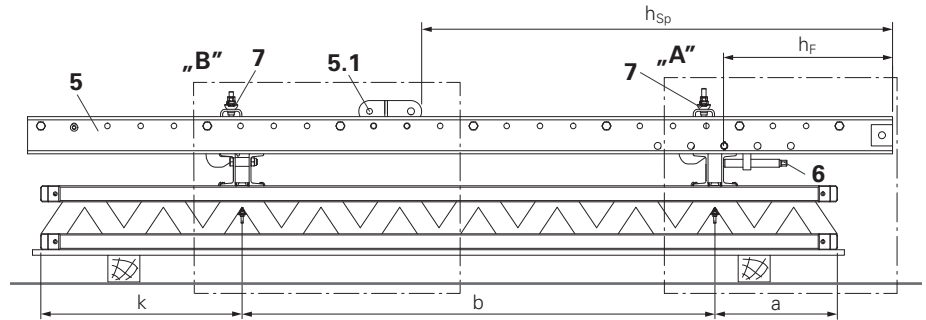
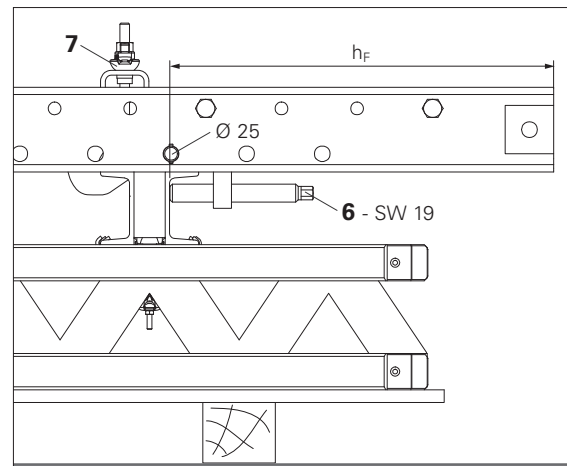

Fig. A3.01
Fig. A3.01a
- Place Strongback (5) on the steel waler of the formwork and align roughly at height h_F . (Fig. A3.01)
- Install Height Adjusting Unit (6) using Bolts Ø 25. Ensure that there is sufficient adjusting range available for required formwork adjustment.
- Turn Spindle (SW 19) of the Height Adjusting Unit (6) against the U-profile of the Strongback and adjust to height h_F . (Fig. A3.01a)
- Bring Spindle Connector (5.1) to height h_{sp} . (Fig. A3.01 + A3.01b) For this, possibly offset one spacer (5.2) of the Strongback:
- Fix Strongback on the formwork walers with Waler Fixation (7). (Fig. A3.01a)
- Securely fix Waler Fixation (7) using wingnut. (Fig. A3.01a)